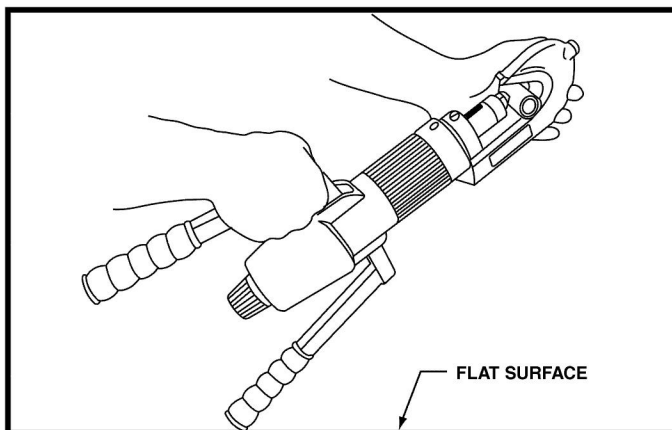

FIGURE 4
- c. Place one handle on hard flat surface with tool head opening facing towards you, see Figure 4.